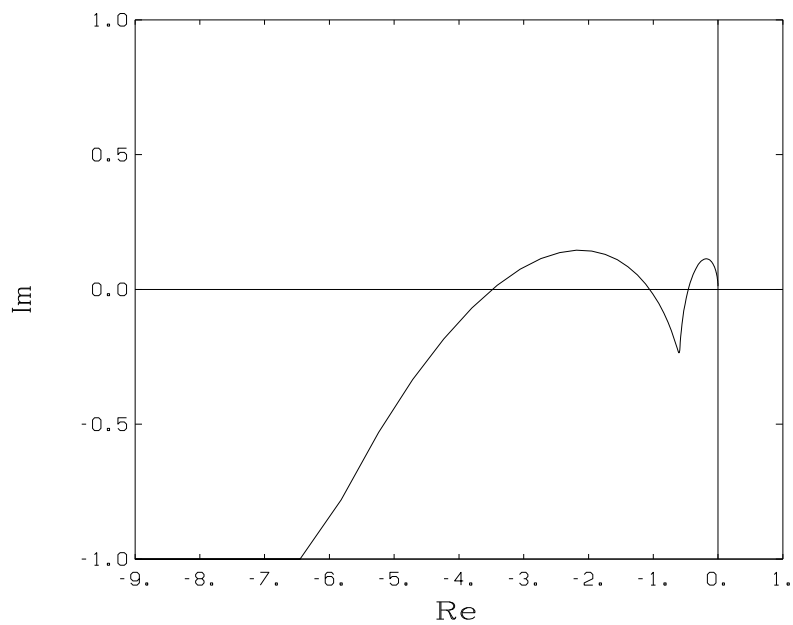

Figure 9.6 Nyquist curve of the system in Problem 9.6 (Extra).
9.6 (Extra) The Nyquist curve of a system is given in figure 9.6. The system is stable, i.e. lacks poles in the right half plane. Assume that the system is subject to proportional feedback under the control law